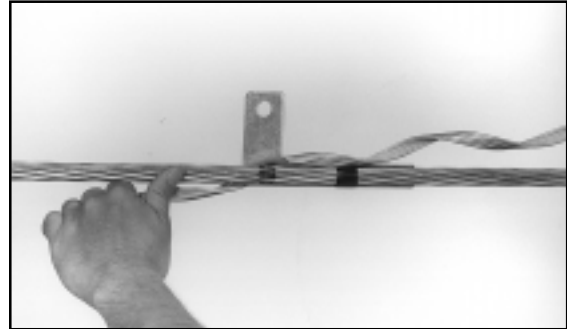
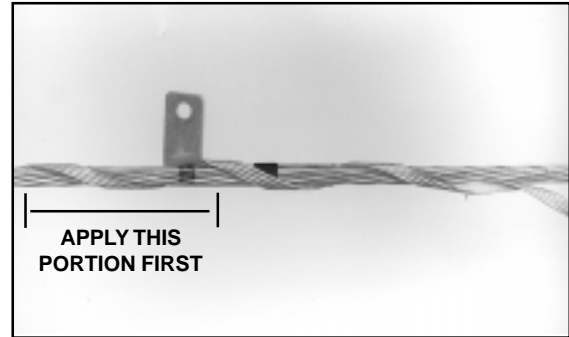

FIGURE 5 - POSITION SRR SUBSET AGAINST CURRENT TRANSFER TAB
FIGURE 6 - WRAP SHORT LENGTH OF SRR NEAREST THE STRUCTURE ONTO OPGW
4.05 Match the Current Transfer Tab color location mark of the first SRR subset to the base of the Current Transfer Tab attachment area. (Figure 5) In order to keep the Current Transfer Tab in place, wrap the short length of the SRR subset nearest the structure completely onto the OPGW. (Figure 6)